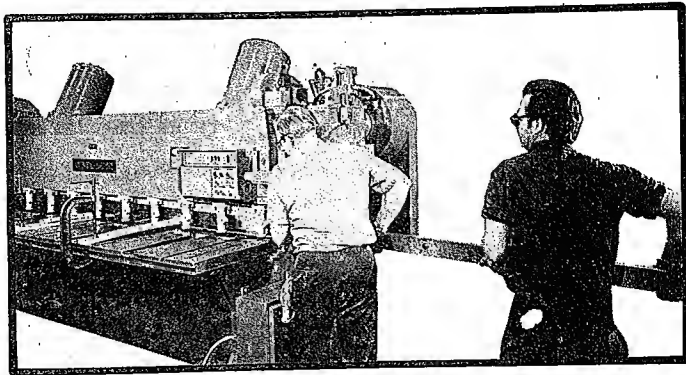

FIGURE 59
10. Remove the upper knife from the machine by sliding out the right end of the machine. Refer to Figure 59.
21. Remove the lower knife by sliding it out the right end of the machine. Refer to Figure 59.